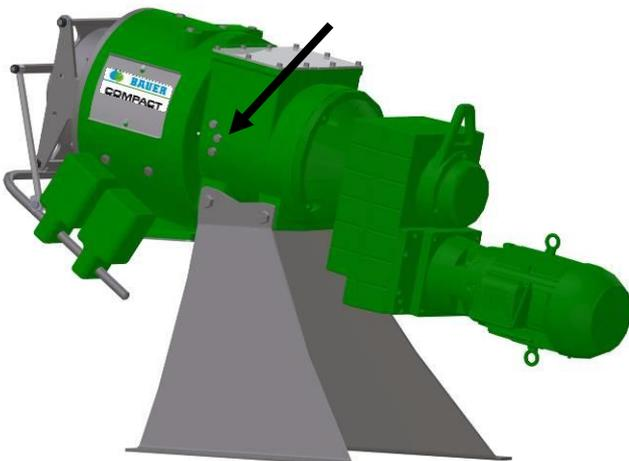

Fig. 13-13 Scraping bolts
6. Loosen the lock nuts of the scraping bolts and turn the scraping bolts roughly one turn counter-clockwise, see Fig. 13-13.
<p>Every 1-3 months</p> <ul style="list-style-type: none"> <li>• Inspection and cleaning of the housing, sieve, guide rails, plastic profile rails, screw, housing protection ring (see section 13.2 - 13.5)</li> <li>• Readjust scraping bolts (see section 13.3 Fig. 13-13)</li> </ul>